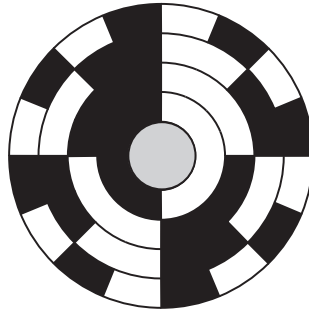

Figure Q8
- (5)**
8. Figure Q8 illustrates a coded disc for use in an optical rotary absolute encoder.